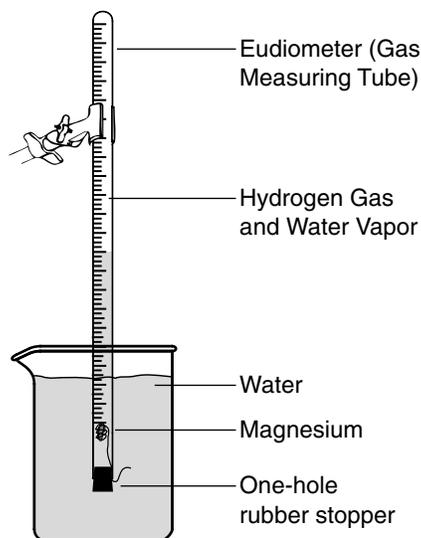

Figure 1.
Hydrogen gas will be collected by the displacement of water in an inverted gas measuring tube (also call a eudiometer tube) using the apparatus shown in Figure 1. The total pressure of the gas in the tube will be equal to the barometric (air) pressure. However, the gas in the cylinder will not be pure hydrogen. The gas will also contain water vapor due to the evaporation of the water molecules over which the hydrogen is being collected. According to Dalton's law, the total pressure of the gas will be equal to the partial pressure of hydrogen plus the partial pressure of water vapor (Equation 4). The vapor pressure of water depends only on the temperature (see Table 1).
6. Insert the straight end of the copper wire into a one-hole rubber stopper so that the cage end containing the magnesium is about 7-cm below the bottom of the stopper (see Figure 1). Hook the end of the copper wire around the top of the stopper to hold the cage in place.